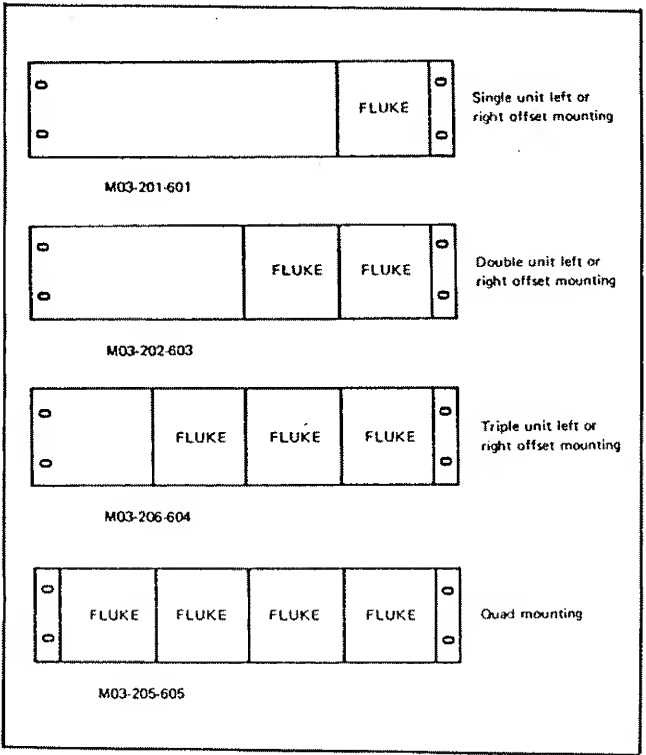

Figure 6-1. RACK MOUNTING CONFIGURATIONS.
6-4. Rack mounting kits for the 731B are available in four different configurations. Each of the configurations as shown in Figure 6-1, is designed for installation in a standard 19-inch equipment rack. The kits contain all of the hardware necessary for installation and each can be assembled to offset the 731B (s) to either the left or right side of the equipment rack.
- c. Refer to the kit shown in Figure 6-1 and select the instruments to which each of the rack ears will be attached.